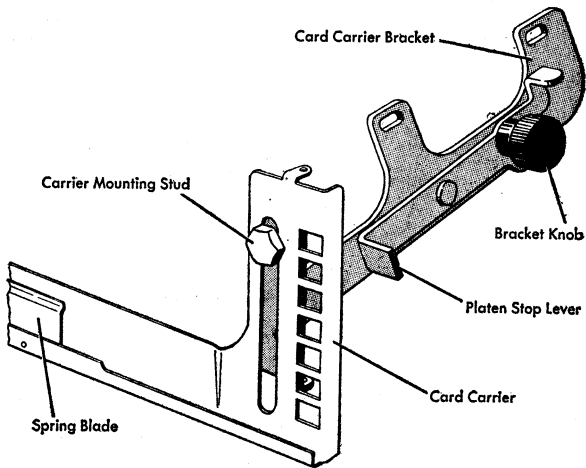

Figure 3. Card Carrier Bracket Adjustment
2. **THE CARD CARRIER BRACKET ASSEMBLIES** may be positioned up or down to obtain a parallel condition of the card carrier (Figure 3). This may be checked by typing first